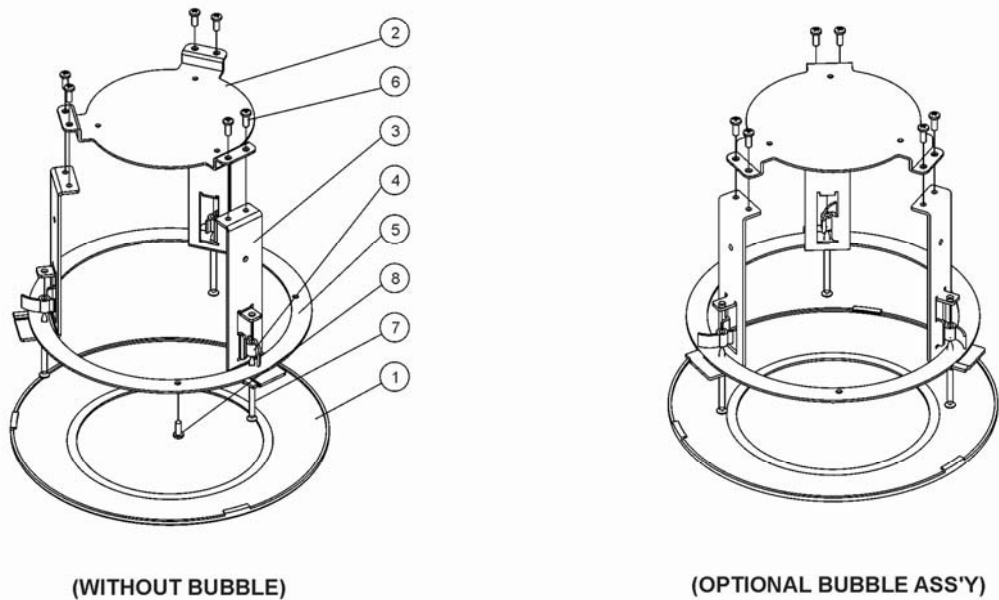

Figure 2 : Exploded Assembly
- B. To install the dome camera, fasten the dome mounting base to the base bracket (Figure 2, 2) using 3 screws which are included in accessories.
- C. Insert the flush mount into the ceiling and turn the lever clamp (Figure 2, 4) to fasten the flush mount to the ceiling.
- E. Fix the trim ring (Figure 2, 1) to the flush mount.